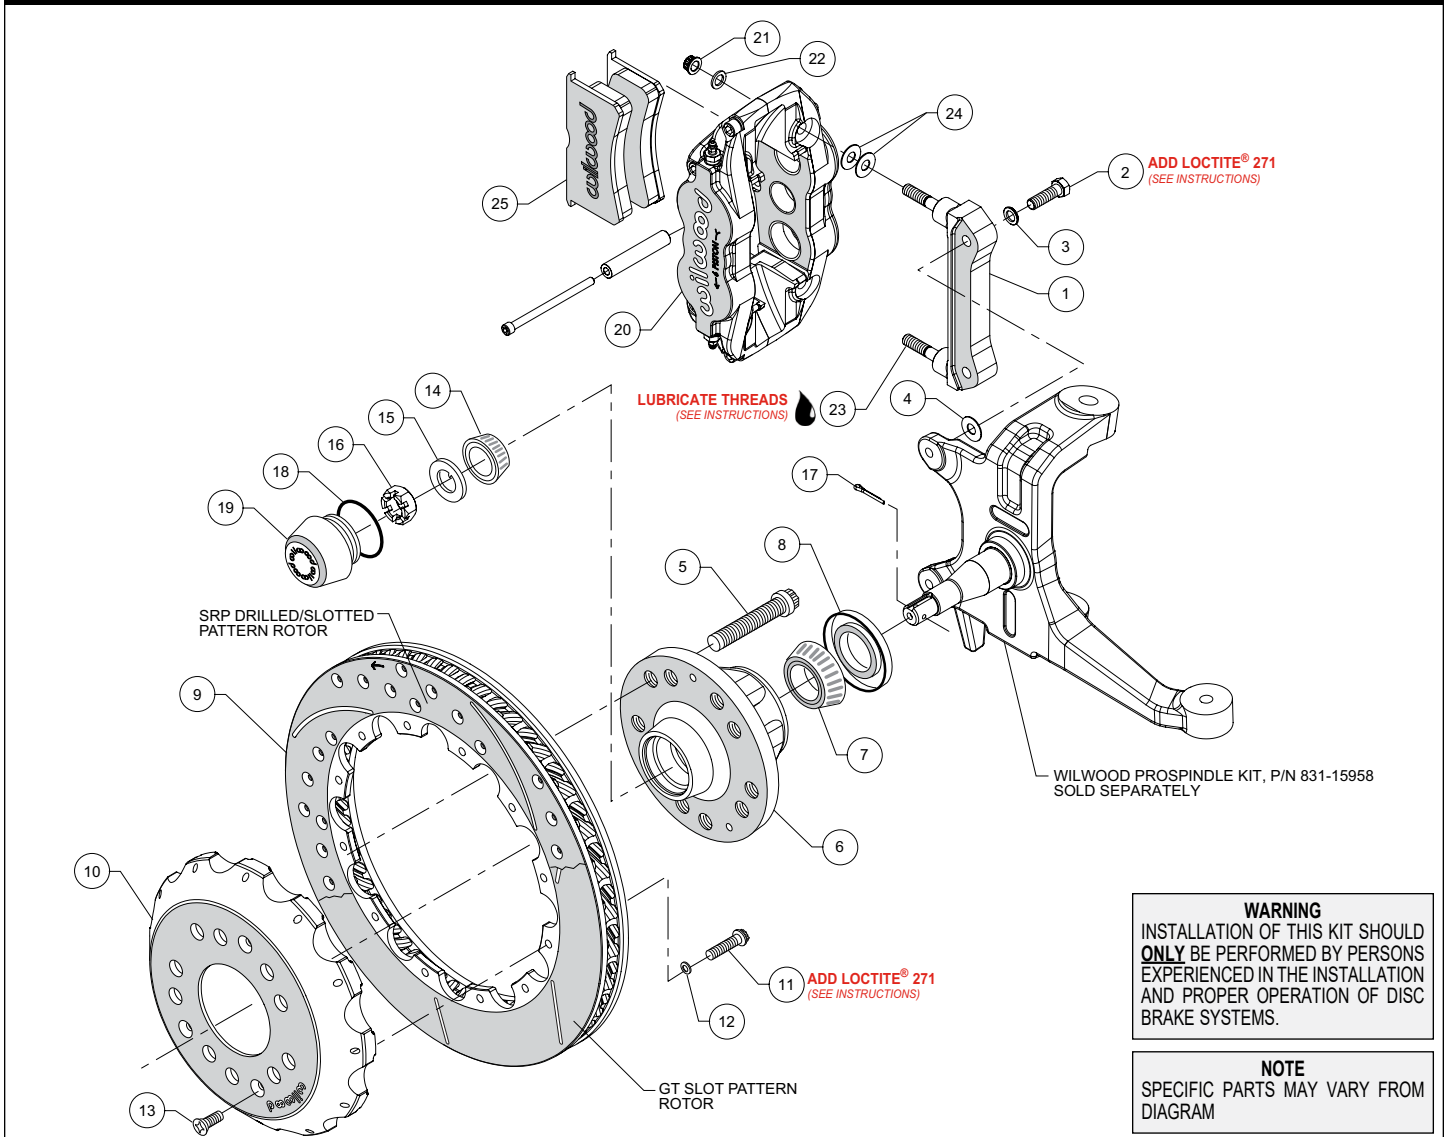
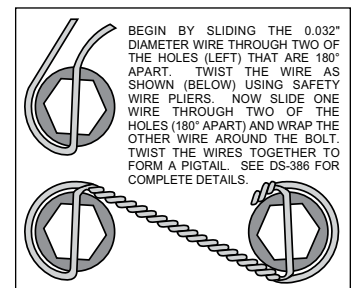

Figure 1. Typical Installation Configuration
Figure 3. Safety Wire Diagram
NOTE: Numbers in parenthesis refer to the parts list and Figure 1 on the preceding pages.
- The caliper mount bracket (1) should initially be installed with clean, dry threads on the mounting bolts. Orient the bracket as shown in Figure 1, and install using bolts (2) and washers (3). Initially place one .035" thick shim (4) on each bolt between the bracket and spindle, Figure 1 and Photo 1. Temporarily tighten the mounting bolts. **NOTE:** *The bracket must fit squarely against the mounting points on the spindle.* Inspect for interference from casting irregularities, machining ridges, burrs, etc. Later, after the caliper alignment has been checked, the mount bolts will be secured using red *Loctite*® 271.
- Orient the rotor (9) and the hat (10) as shown in Figure 1 and Photo 5. Attach rotor to hat using bolts (11) and washers (12). Using an alternating sequence, apply red *Loctite*® 271 to the threads and torque bolts to 155 **in-lb**. For an added measure of security, the bolts may be safety wired using standard 0.032 inch diameter stainless steel safety wire as shown in Figure 3. Refer to Wilwood's data sheet DS-386 (available at www.wilwood.com/Pdf/DataSheets/ds386.pdf) for complete safety wire installation instructions.
•**NOTE:** This kit contains distinct right and left hand calipers that must be mounted in a specific direction, as described below. Lubricate the caliper mounting studs (23) with lightweight oil. Initially place two .035" thick shims (24) on each stud between the caliper and the bracket, as shown in Figure 1 and Photo 7. Mount the caliper (20) onto the bracket (1) using lock nuts (21) and washers (22), Figure 1. Ensure that the caliper is mounted so the largest pistons are at the rotor exit end of the caliper, in relation to the direction of rotor rotation. Temporarily tighten the lock nuts and view the rotor through the top opening of the caliper. The rotor should be centered in the caliper, Photo 8. If not, adjust by adding or subtracting shims (4) between the bracket and the spindle. Always use the same amount of shims on each of the two mounting bolts. Once the caliper alignment is correct, remove the bracket mounting bolts (2) one at a time, apply red *Loctite*® 271 to the threads, and torque to 40 ft-lb.